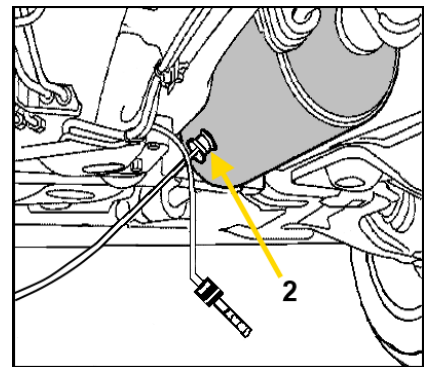

Figure 3
2. The cleaner and flushing agent recommended by the vehicle manufacturer is sprayed into the diesel particulate filter using an appropriate probe (Figure 3). The application instructions of the manufacturer must be observed.